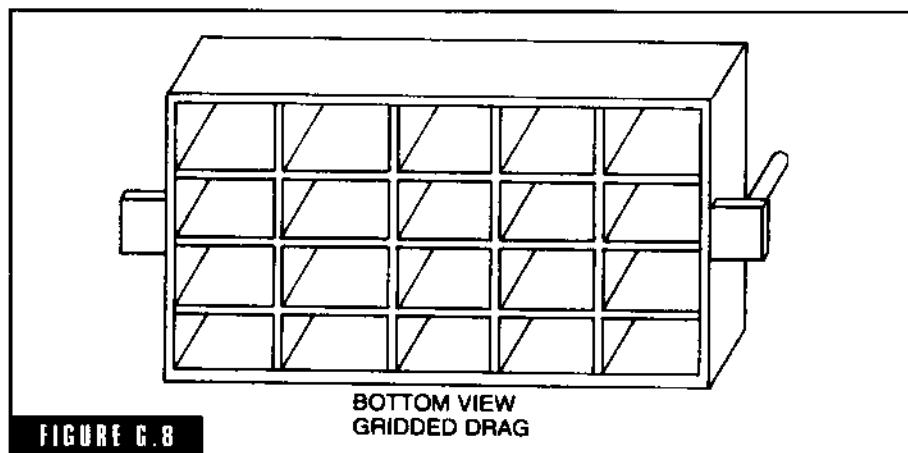

FIGURE G.8
**grid bars and grids** Large flasks where the drag is rolled over and a bottom board would be cumbersome or impractical (Fig. G-8). The drag is fitted with cast iron or steel grids. The drag is rammed part way, the grid bolted in place and finished through the openings in the grid.